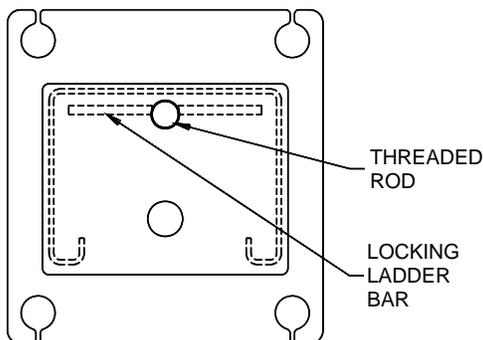

**Fig 7 – Final Runway Positioning**
- 12) Check the layout of the lift in the bay. (**This is the last opportunity to reposition the lift.**) Adjust the position of the runways so the distance from power side jack rail to idler side jack rail is the same at the front and the rear and the diagonal measurements from the front tip of one rail to rear tip of the opposite rail are within  $\frac{1}{8}$ ", **Fig 7.**